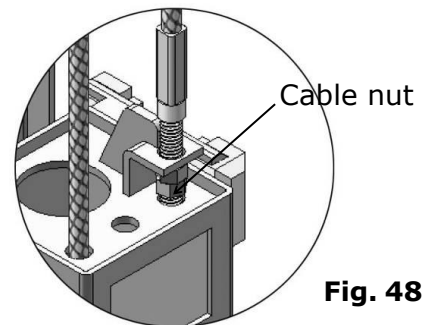

Fig. 48
1. Adjustment of synchronous cable (See Fig. 48)